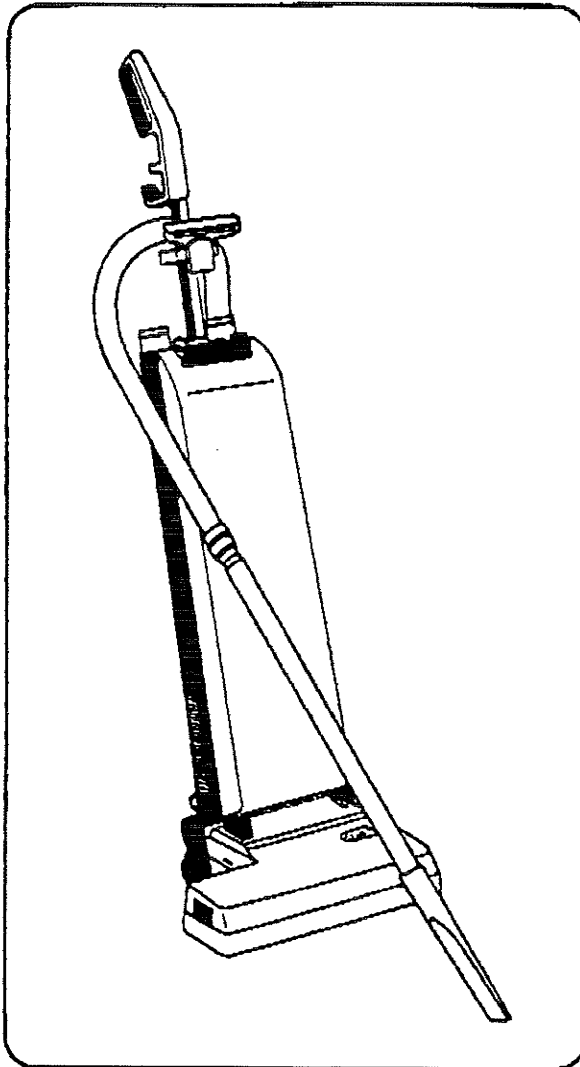

Fig. 1B
1. Remove the wand by snapping out of the retainer clip and pulling from the inlet in the base. The brush motor will automatically stop when the wand is removed. Attach the tool of your choice and clean. When replacing the wand, make sure that it fits tightly into the base inlet for proper performance. See Fig. 1B